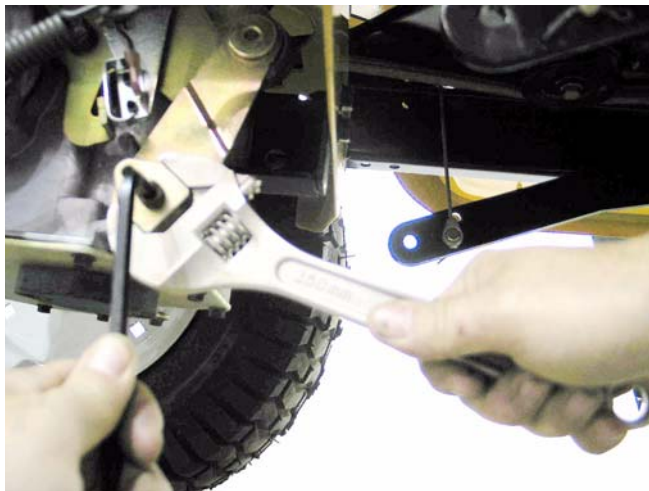

Figure 31.36
31.36. The roller is moved up or down by rotating the house-shaped eccentric that the neutral return arm pivots on. See Figure 31.36.